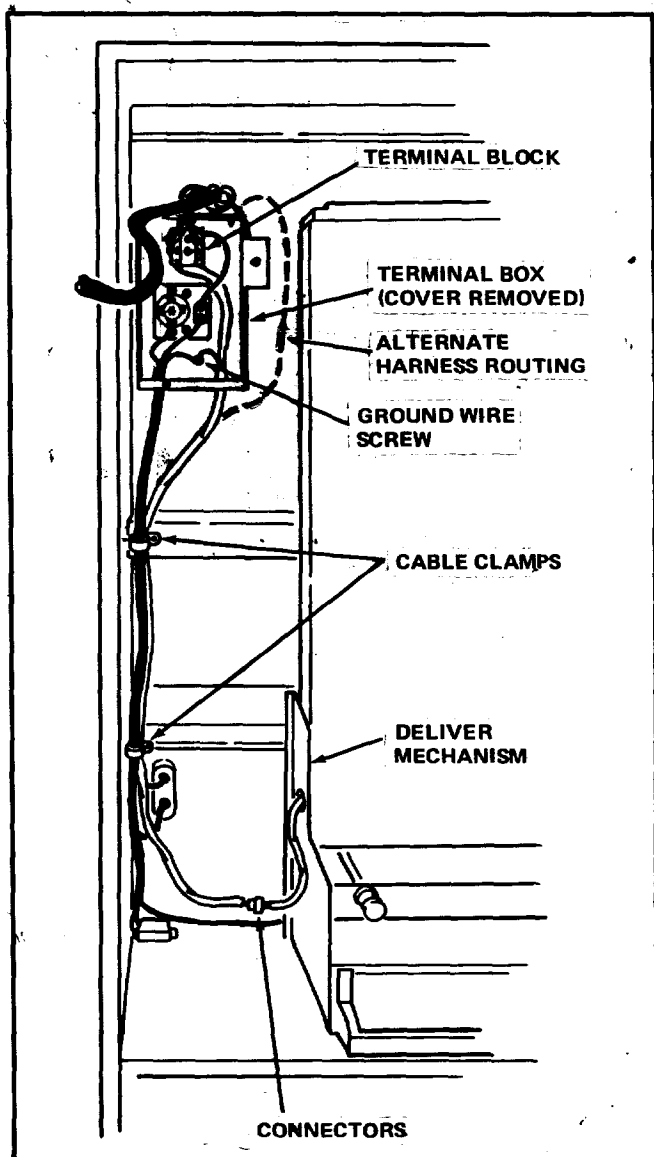

FIGURE V-2
- E. Remove the Screws which attach the two Cable Clamps which attach the Harness between the Service Cord outlet and the Terminal Box. See Figure V-2.
- D. Attach the Connector on the Delivery Mechanism Harness to the lower Connector on the Harness installed in Procedure V of this Instruction. See Figure V-2.